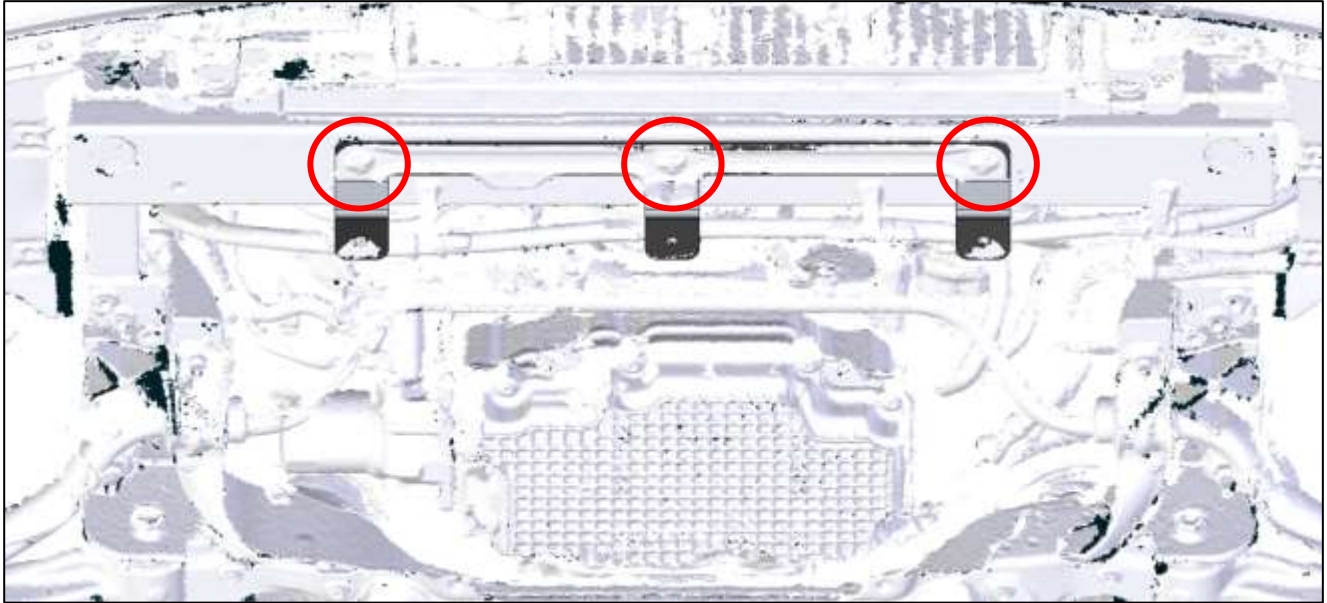

Figure 1
4. Remove the (3) three bolts securing the Core Support Bracket to the vehicle. This is only on NISMO Models, however on non-NISMO models, the mounting holes will still be there. *Figure 1.*